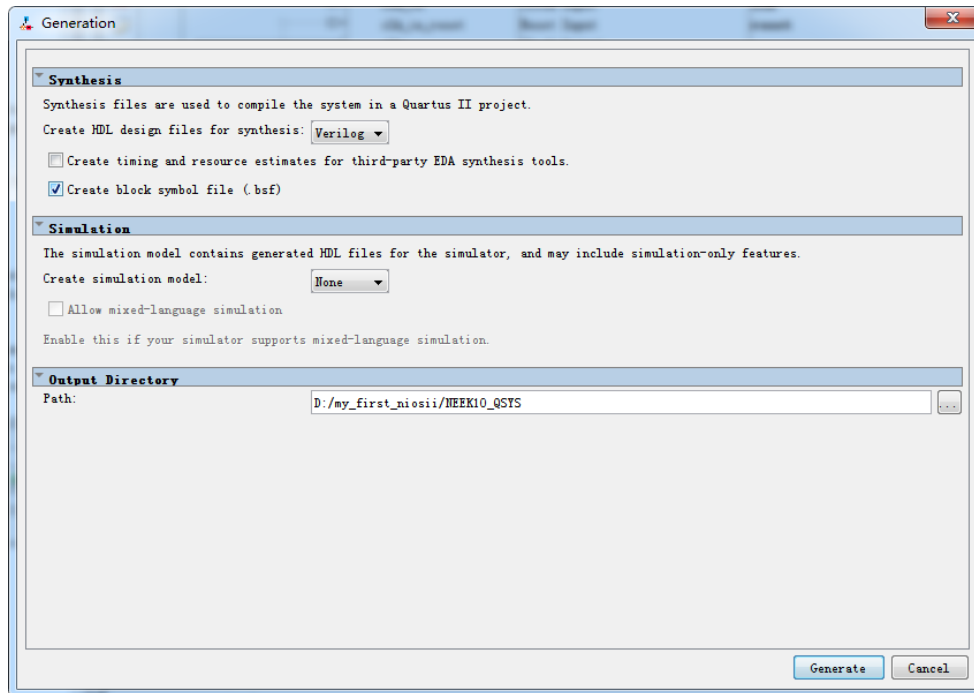
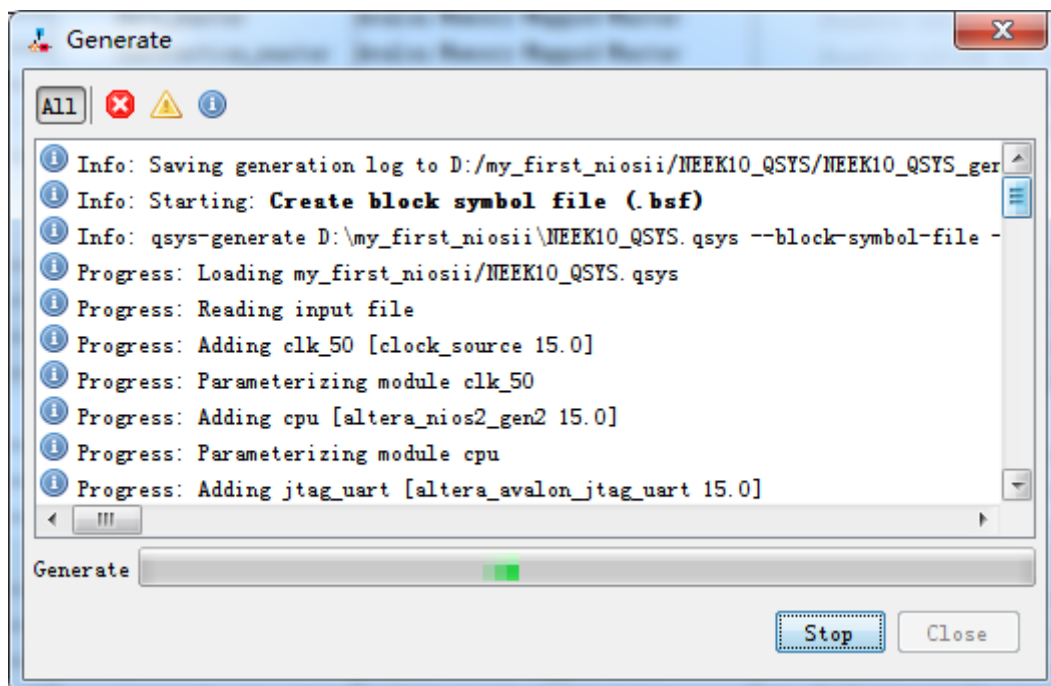
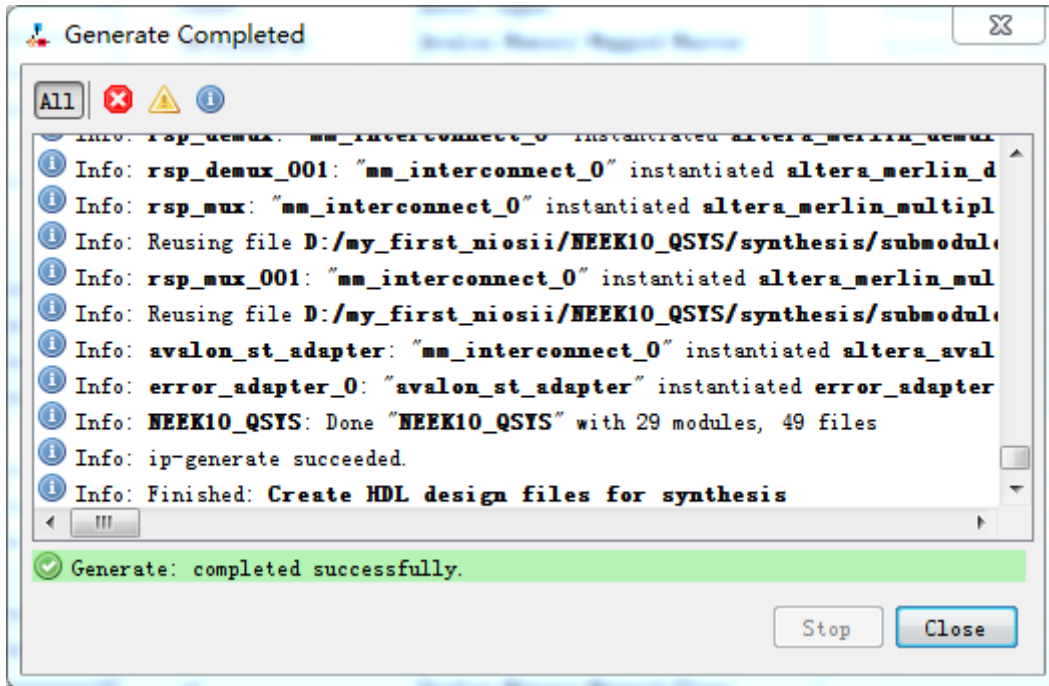

Figure 1-32 Generate HDL files in Qsys
Figure 1-33 Generation process
Figure 1-34 Generation is complete and successful
23. Click **Generate HDL...** button on the bottom right corner and a window will pop up, as shown in **Figure 1-32**. Click **Generate** button and the process will begin, as shown in **Figure 1-33**. **Figure 1-34** shows there is no error message during the process.